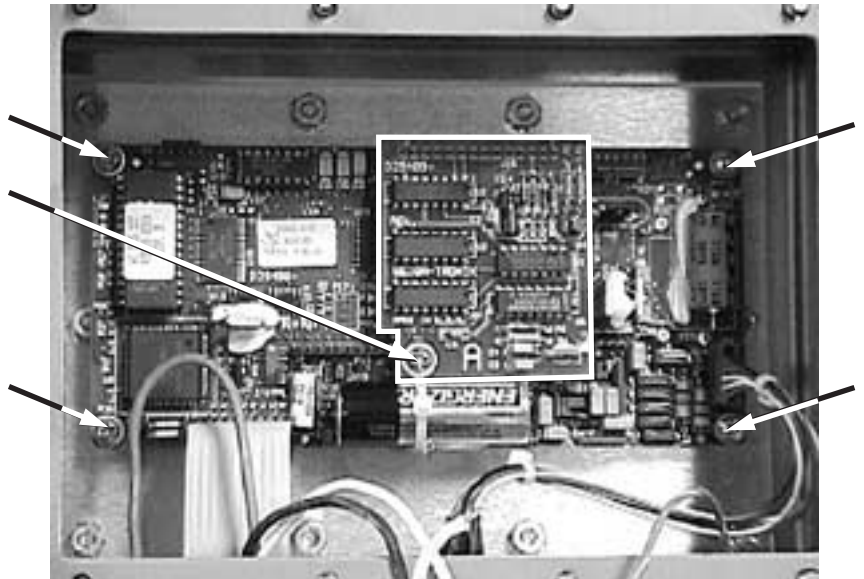

Figure 12
6. Figure 12 shows the main pc board inside the front of the enclosure. Remove this board by removing the screws pointed out in Figure 12 and lifting it off the display board underneath. Outlined in white is the optional time and date card. Pull this card up from the main board once the screw holding it down is removed.